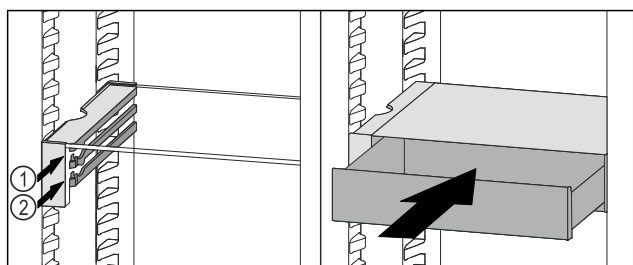

Fig. 220
- ▶ Place the VarioSafe drawer behind the stoppers on desired rib Fig. 220 (1) or Fig. 220 (2).